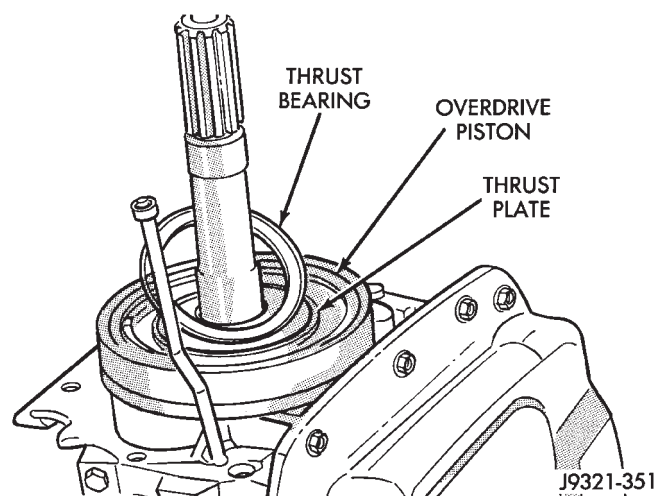

Fig. 192 Overdrive Piston Thrust Bearing Removal/Installation
(2) Remove overdrive piston thrust bearing (Fig. 192).